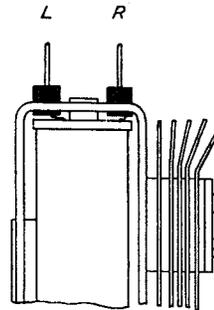

FIG. 48-WINDING TERMINAL ARRANGEMENT AS VIEWED FROM THE TOP - DASHPOT RELAYS
2.69 The springs are numbered as covered in 2.42. The winding terminals are designated as shown in Fig. 48 viewing the relay from the top with the springs on the right.